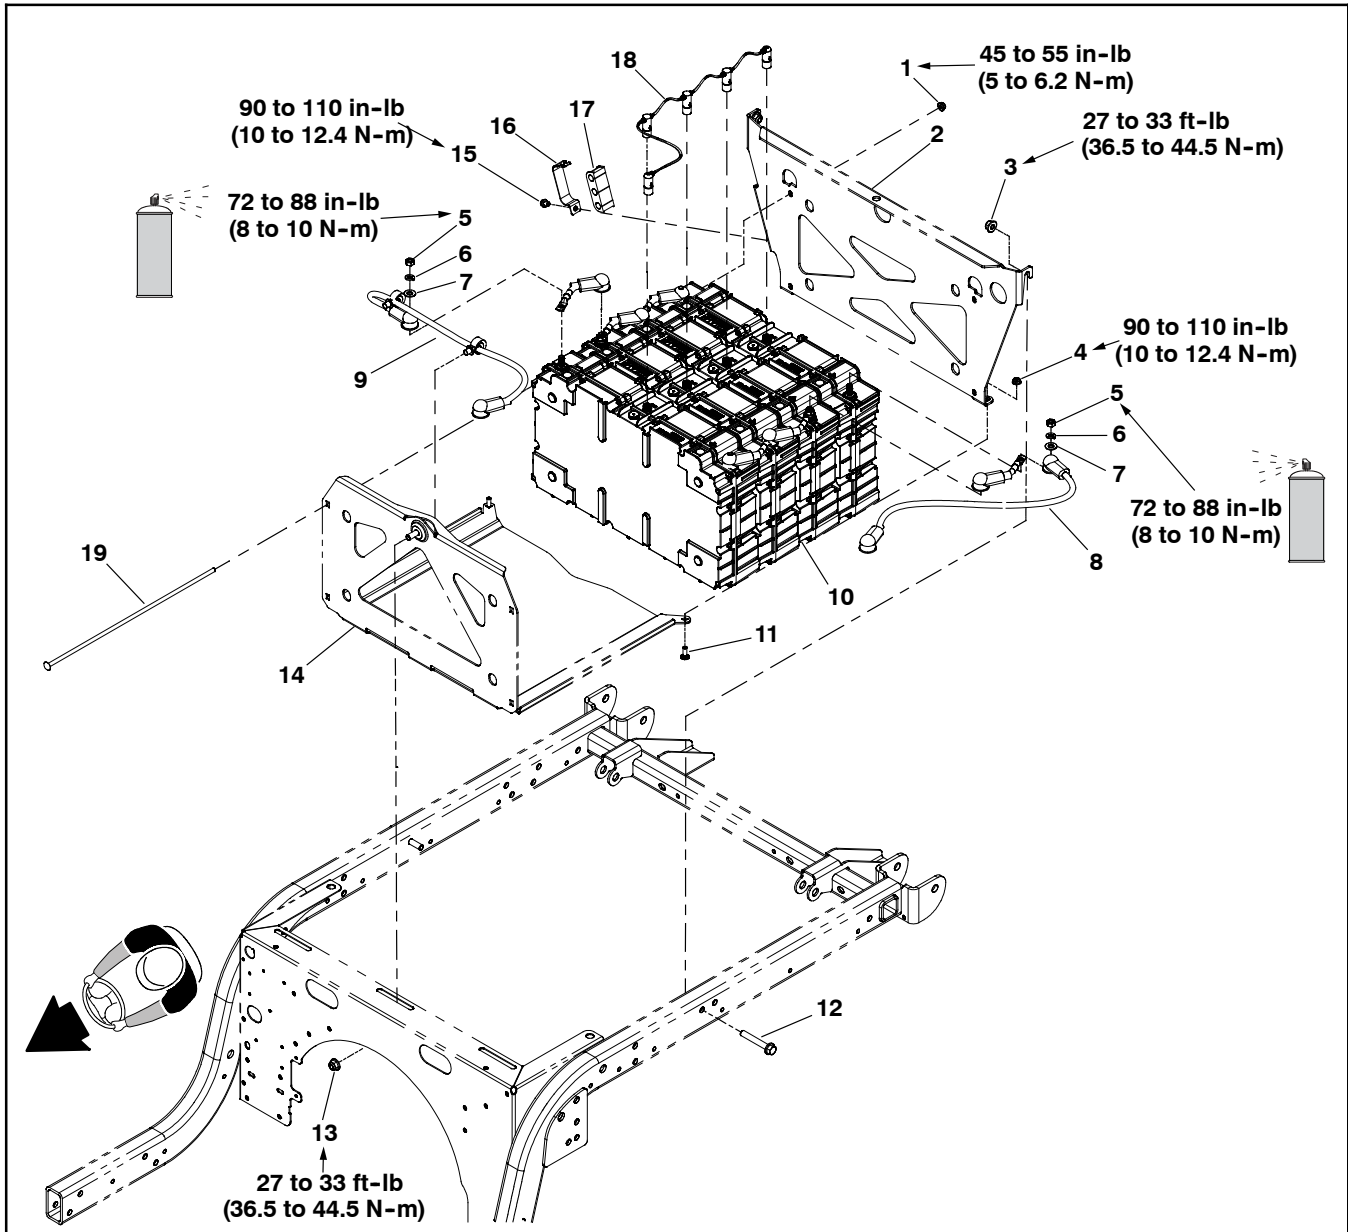

Figure 53
Battery Removal (Fig. 53)
7. Remove the three flange nuts (3 and 13) that secures the battery pack assembly to the frame assembly; refer to Fig. 53.
8. Continue to dismantle the battery assembly as necessary; refer to Fig. 53.
Battery Installation (Fig. 53)
IMPORTANT: Make sure that batteries are installed with the positive terminals are left side of the vehicle and the negative terminals are right side of the vehicle (Fig. 53).
4. Install the battery assembly onto the machine frame using the figure 53. Torque tighten the battery pack flange nuts (3 and 13) from 27 to 33 ft-lb (36.5 to 44.5 N-m).